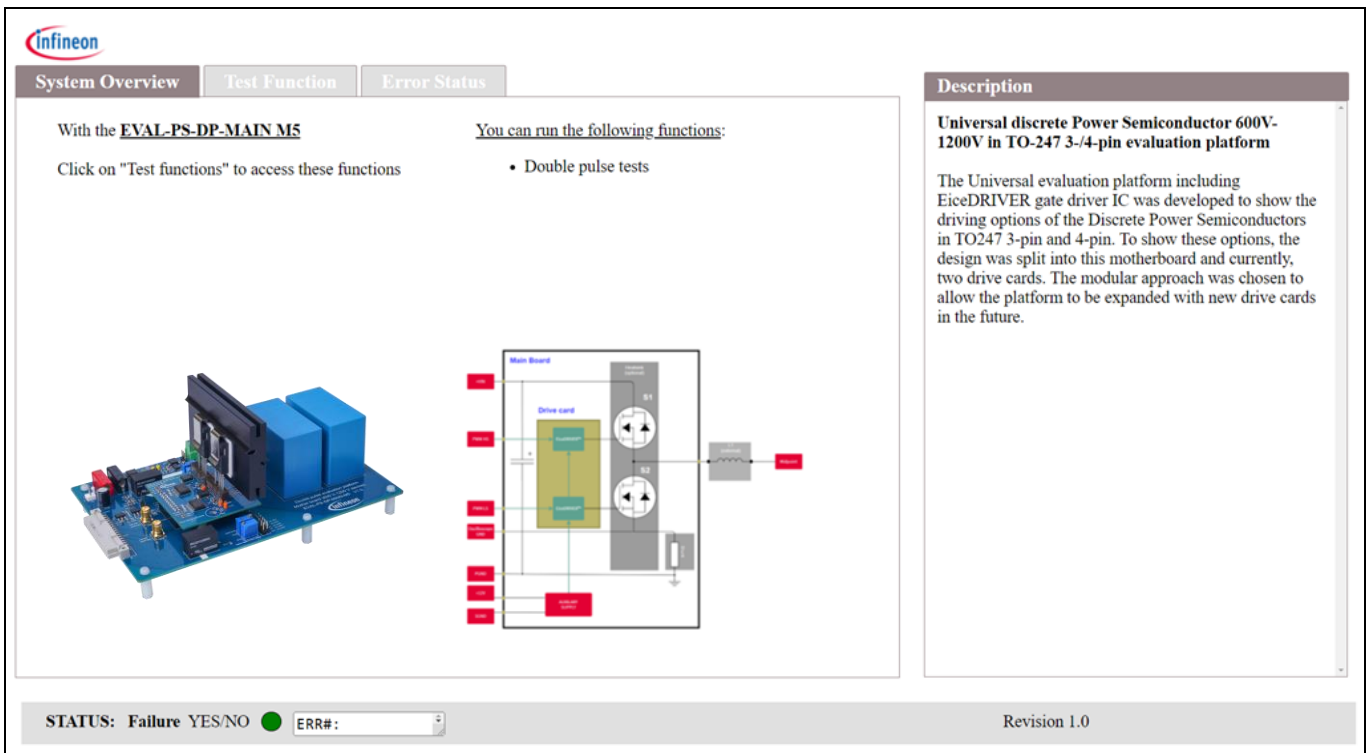

Figure 23 System overview page of the GUI
2. Open the web browser on your PC. Type the web address ‘http://192.168.0.2’ and press **Enter**, the System Overview page of the GUI will open (see Figure 23).